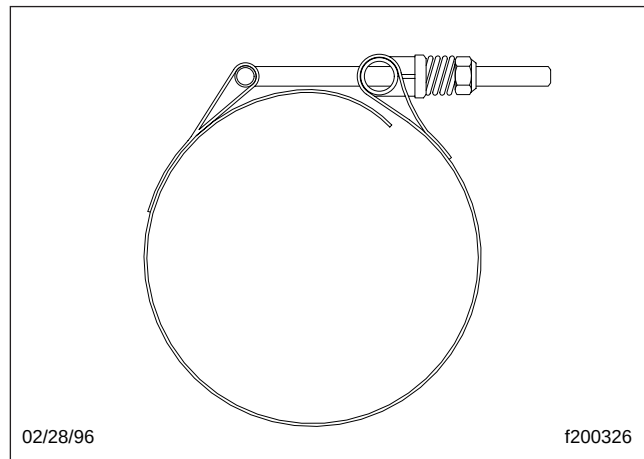
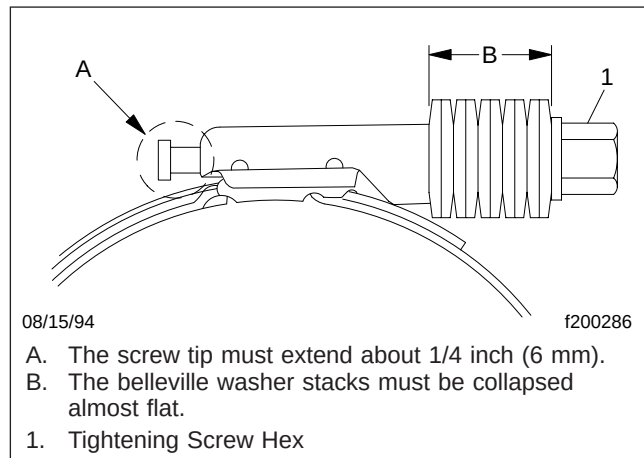

Fig. 3, T-Bolt Type Hose Clamp
Fig. 4, Breeze Constant-Torque Hose Clamp Installation
6. Connect the hoses. Your hose clamps can be either T-bolt clamps (Fig. 3) or Breeze Constant-Torque clamps (Fig. 4).